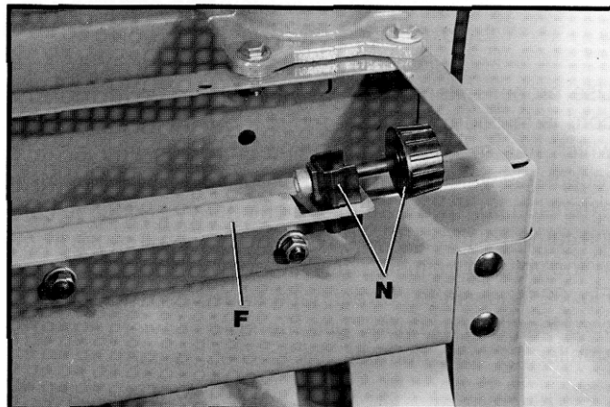

Fig. 29
8. Assemble table board clamp (N) Fig. 29, in the slotted hole at the rear of the table mounting bracket (F) as shown. Assemble remaining table board clamp to the other table mounting bracket in the same manner.